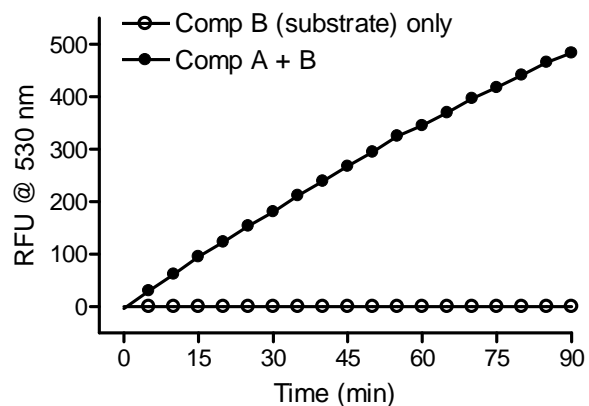

Fig. 2. Kinetic cleavage of FRET HCV PR substrate (component B) by HCV NS3/4A protease (component A).
D. Data collection at kinetic mode: Immediately begin to collect RFU signal continuously at excitation/emission = 490 ± 10 nm / 530 ± 10 nm as shown in Figure 2.